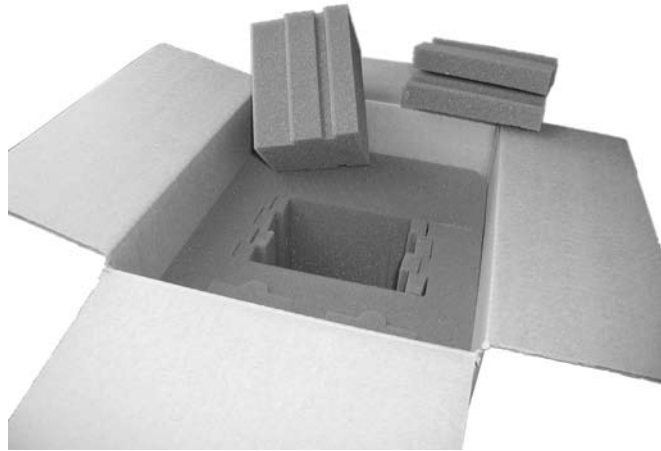

Figure B-4 — Removing inner side foams
6. **CC 600 and 800 only** — Remove and discard the inner side foam sections of the cushion in the carton (figure B-4). **If you are returning a Cable Cubby 600 model, this is the correct fit.** Proceed to step 8.